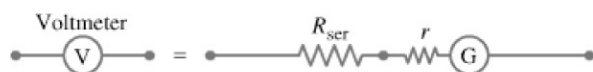

FIGURE 19–31 A voltmeter is a galvanometer in series with a resistor with high resistance, R_{ser} .
A voltmeter (V) also consists of a galvanometer and a resistor. But the resistor R_{ser} is connected in series, Fig. 19–31, and it is usually large, giving a voltmeter a high internal resistance.